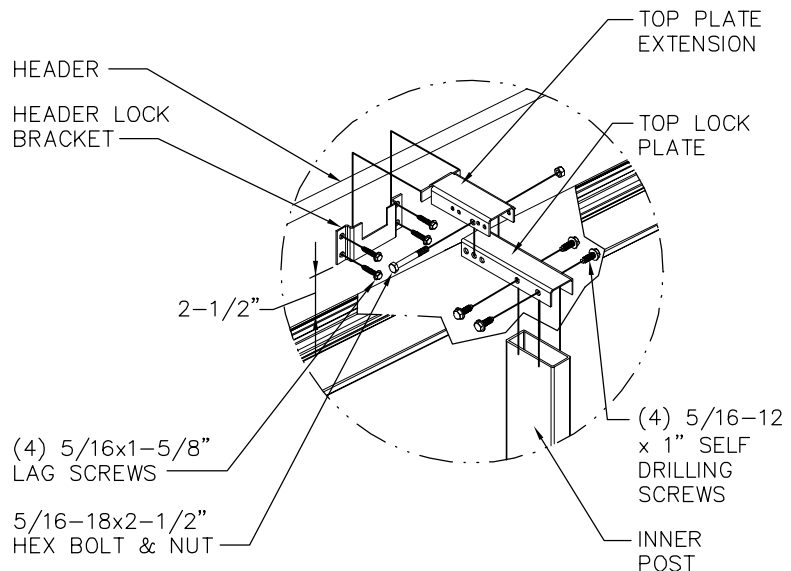

FIGURE 1
ATTACH THE HEADER LOCK BRACKET TO THE HEADER USING THE (4) 5/16"x1-5/8" LAG SCREWS PROVIDED AS SHOWN IN FIGURE 1. THE HEADER LOCK BRACKET SHOULD BE IN LINE WITH THE INTERMEDIATE HINGES WHERE THE POST IS TO BE INSTALLED AND LOCATED SUCH THAT THE BOTTOM OF THE BRACKET IS APPROXIMATELY 2-1/2" ABOVE THE TOP OF THE DOOR.
ALIGN THE LARGE DIAMETER HOLE IN THE TOP PLATE EXTENSION WITH THE SECOND HOLE IN THE TOP LOCK PLATE AS SHOWN IN FIGURE 1 AND BOLT TOGETHER WITH (1) 5/16-18x2-1/2" HEX BOLT AND NUT. ALIGN THE ASSEMBLY OVER THE TOP OF THE INNER POST AND SECURE WITH (4) 5/16-12x1" SELF DRILLING SCREWS THROUGH THE HOLES PROVIDED IN THE TOP LOCK PLATE. SLIDE THE OPPOSITE END OF THE INNER POST INTO ONE END OF THE OUTER POST.